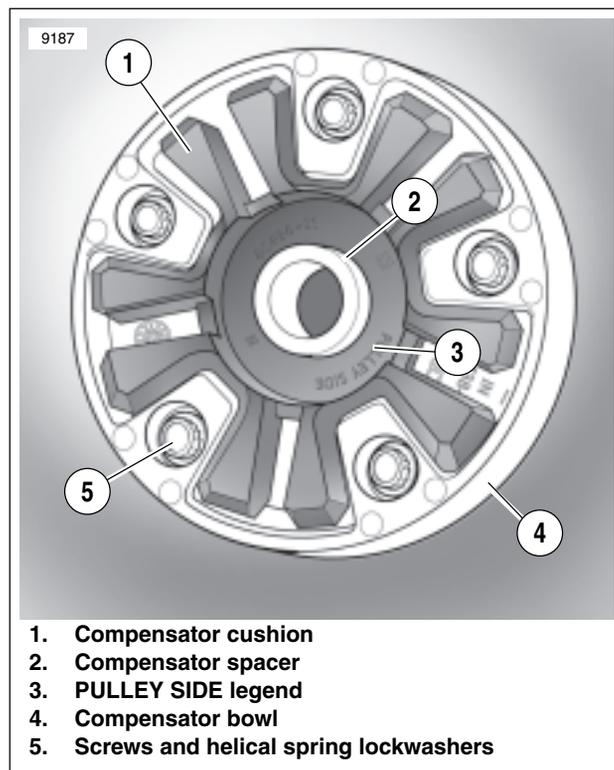

Figure 2-74. Compensator Cushion in Compensator Bowl
1. See Figure 2-74. Pull sprocket out of rubber compensator cushion (1) and compensator bowl (4) mounted to disc wheel.
2. Pull compensator spacer (2) and compensator cushion (1) from compensator bowl (4) mounted to disc wheel.
6. See Figure 2-74. Lubricate compensator cushion (1) with a detergent spray like Windex™ and install compensator cushion. Be sure the PULLEY SIDE legend (3) is facing out.
7. Install the compensation spacer (2) with the grooved end in the cushion (1).